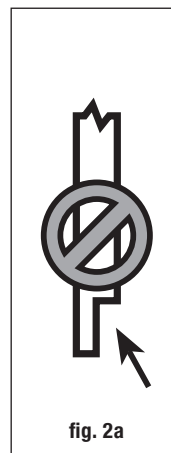

fig. 2a
**Step 2:** Install rail posts prior to installing deck boards. Cedar or pressure-treated pine 4x4 railing posts provide the structural strength for the railing. The length of each post is determined by the total of the joist width (7-1/4") + decking thickness (1") + railing height (36" or 42") + spacing for post cap (1-1/4") = 45-1/2" or 51-1/2". **Important:** Do not notch the 4x4 railing posts. Notching will reduce the strength of the post and could result in railing collapse or failure (fig. 2a).